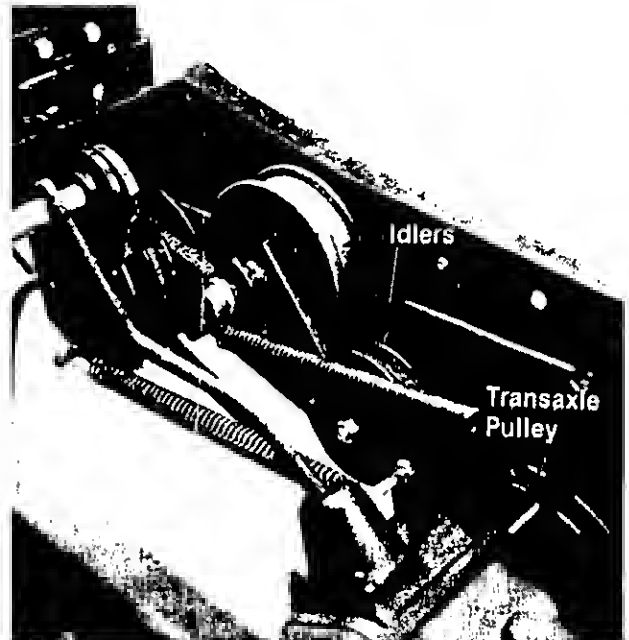

FIGURE 15.
10. Remove rear belt from the idlers and transaxle pulley. See figure 15.